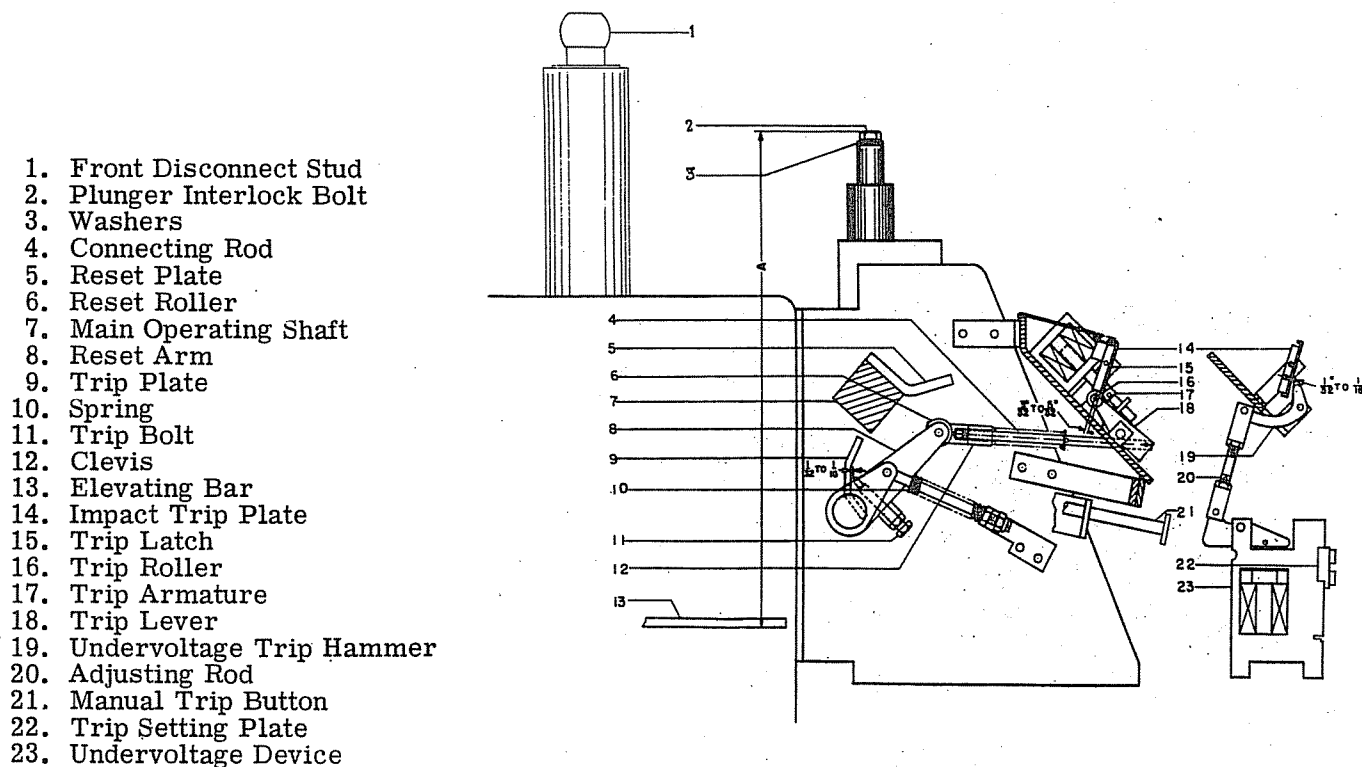

Figure 13 (0634D0336) Adjustments on Current Trip Device and Undervoltage Trip Device, Shown With The Breaker in The Closed Position
Figure 13 shows the necessary settings that are to be checked when these devices are fur-
Refer to Figure 13. With the breaker in the close position, the vertical distance "A" from the top of the interlock bolt (2) to the bottom of the elevating bar (13) should be $16-19/32''$ to $16-23/32''$. To change this adjustment add or remove washers (3).